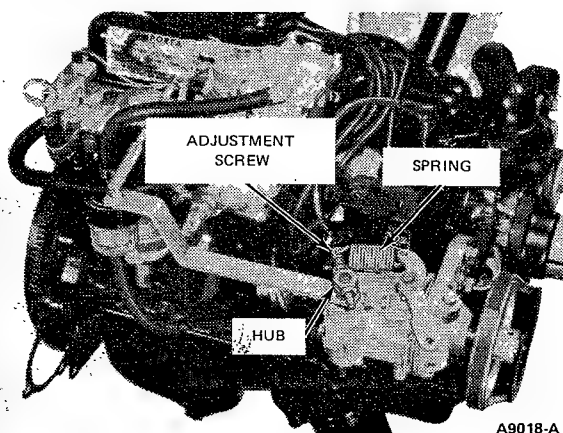

FIG. 6 Pierce Spread Adjustment
1. With the engine running under no-load at maximum governed speed, loosen the lock nuts and adjust the screw (Figure 6) to move the spring away from the lever hub.